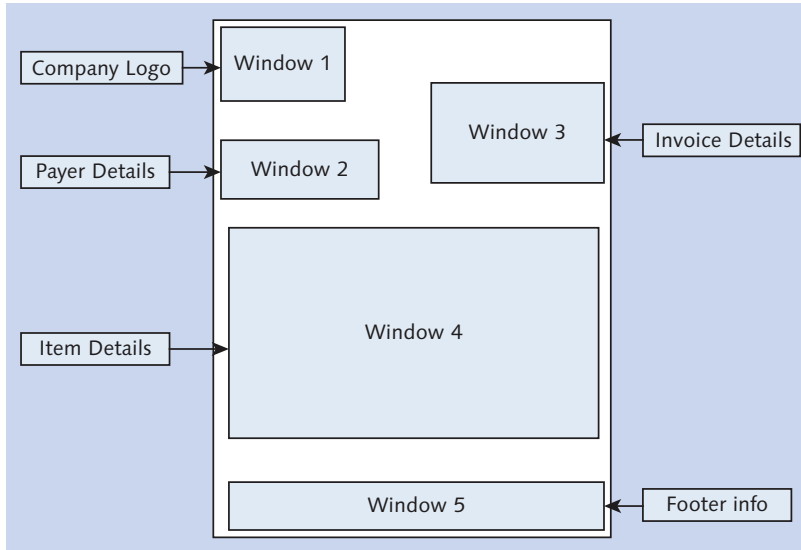
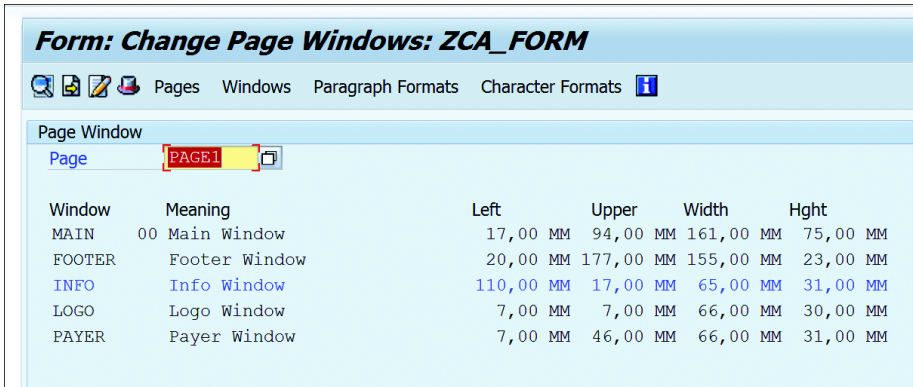

Figure 18.2 Form Layout
Figure 18.9 Page Windows Screen
Figure 18.2 shows a rough layout of the planned form. SAP calls each section of the page a *window*. When designing the form layout, we create different windows on the page in which the planned data will be printed.
In this section, we'll create the form layout as per the design shown in Figure 18.2.
7. Create the other windows on the page as per the layout shown in Figure 18.2. Once done, deactivate the graphical Form Painter (using the menu path **SETTINGS • FORM PAINTER**) to go back to the **CHANGE PAGE WINDOWS** screen, as shown in Figure 18.9. All the windows that you've created for the page will be displayed in this screen. If you want to, you can create multiple pages with different windows.
- Once the default paragraph is defined, click the HEADER button (the hat symbol in Figure 18.9 to the left of the PAGES button) in the toolbar (or press **F5**) to assign the default paragraph format for the form. On the FORM: CHANGE HEADER screen shown in Figure 18.11, select BASIC SETTINGS to maintain the PAGE FORMAT, FIRST PAGE that should be called (if the form has multiple pages), default paragraph (DEFAULT PARAGR.), default font (FONT FAMILY), and FONT SIZE. Once these mandatory settings are maintained, the form can be activated. From the menu, select FORM • ACTIVATE to activate the form.